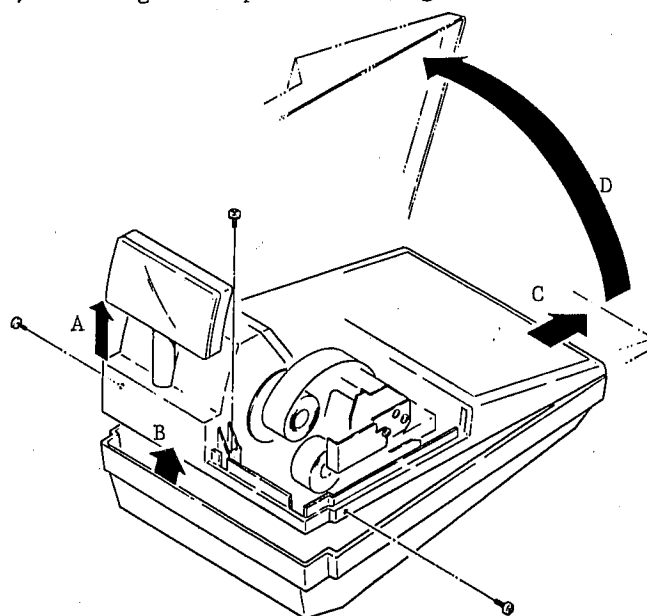

Fig. 9-1
2) Removing the top cabinet (Fig. 9-1)